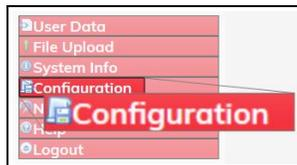

Figure 156: Configuration link
4. On the **Menu** list, click the **Configuration** link. Figure 156